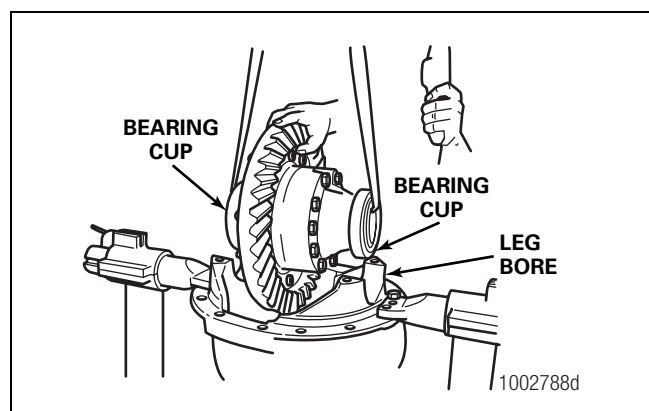

Figure 5.47
4. Install the bearing cups over the bearing cones that are assembled on the case halves. Figure 5.47.
5. Safely lift the differential and ring gear assembly and install it into the carrier. The bearing cups must be flat against the bores between the carrier legs. Figure 5.47.